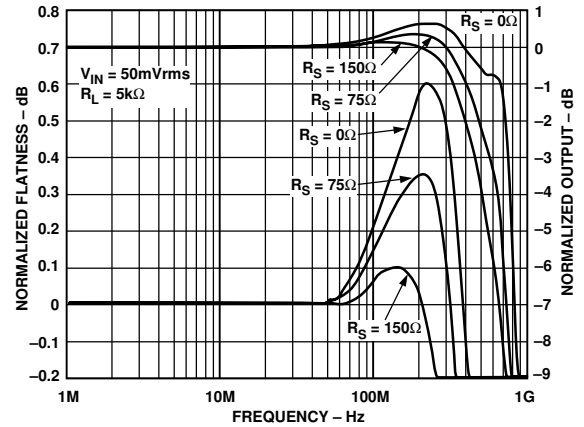

Figure 19. Frequency Response vs. Input Series Resistance
- 5A resistor (RS) placed in series with the multiplexer inputs serves to optimize 0.1 dB flatness, but is not required (see Figure 19.)
series resistors at the input or output. If better flatness response is desired, an input series resistance ( $R_S$ ) may be used (refer to Figure 19), although this will increase crosstalk. The dc gain of the AD8184 is almost independent of load for  $R_L > 10 \text{ k}\Omega$ . For heavier loads, the dc gain is approximately that of the voltage divider formed by the output impedance of the mux (typically  $28 \Omega$  and  $R_L$ ).